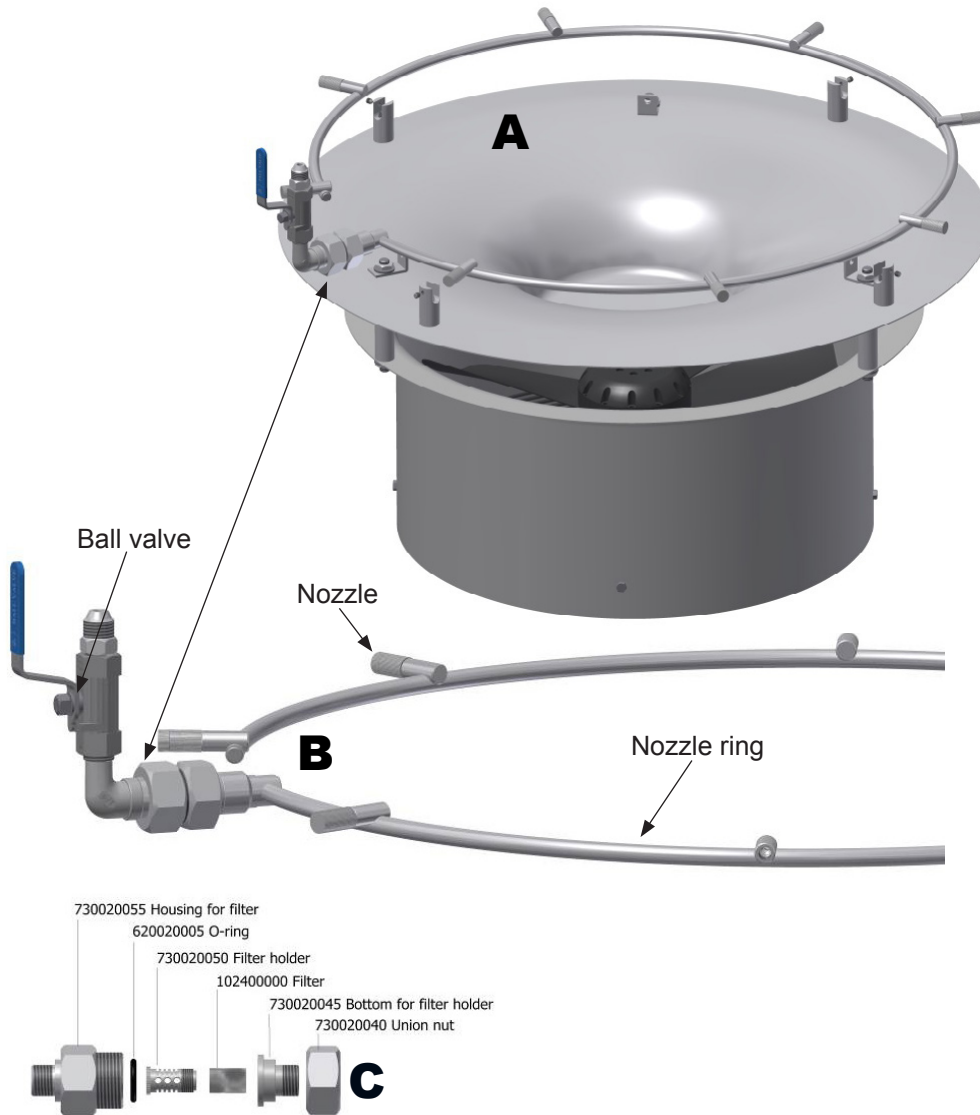

Figure 3: Assembling Princess 2
- C. In the event the ball valve does not come fully assembled. Assemble ball valve and filter union as shown in *Figure 3*. Make sure that the filter fixture is attached securely and the O-ring is in place before assembling the filter union. Close the ball valve when the unit is finally mounted.